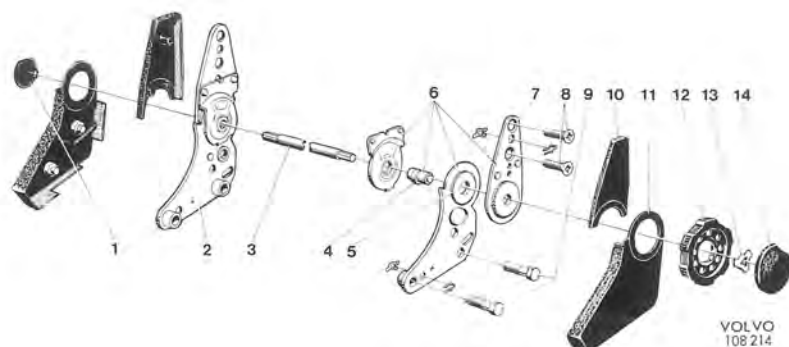

Fig. 8-45. Seat reclining mechanism
1. Remove the cover (14, Fig. 8-45) from the hand wheel by pressing it out through the hole of the hand wheel. See Fig. 8-46.
2. Remove the hand wheel (12, Fig. 8-45) by turning the lock washer (13) anti-clockwise as shown in Fig. 8-47.
3. Remove the plastic covers (10 and 11, Fig. 8-45).
4. Remove the screws (8 and 9, Fig. 8-45) and remove the lever unit.
5. Bend loose the cover (1, Fig. 8-45) and remove the plastic covers from the bracket with a screwdriver.
2. Install the shaft in the square hole of the flange bracket and fit the bracket to the back rest with the screws (8, Fig. 8-45).
3. Install the lever with octagon hole on the shaft in such position that the holes in the bracket coincide with the nuts on the back rest. Fit the bracket to the back rest with screws (8, Fig. 8-45).
4. Install the back rest with brackets to the seating frame with screws (9, Fig. 8-45).